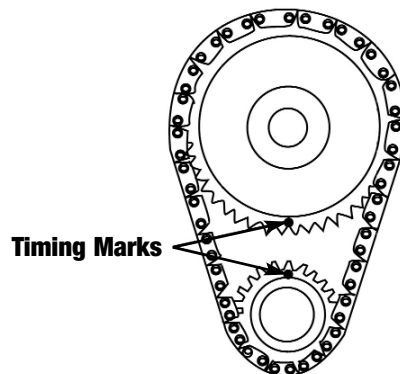

Figure 1 - Timing Mark Alignment
8. Rotate the crankshaft two full revolutions (*use flywheel holding tool J-42386, if necessary*). This will raise the lifters up into the lifter guides. The lifter guides will hold the lifters away from the camshaft so that it may be removed without the need to remove the lifters. Continue rotating the engine until the timing marks on the timing chain are in line (**See Fig. 1**). Remove the three bolts holding the camshaft sprocket and carefully remove the cam sprocket. You can allow the timing chain to rest on the crankshaft sprocket. (**NOTE:** Now is a good time to inspect the timing set. Replace, if necessary, following the service manual procedure.)
3. Replace the timing chain and camshaft sprocket. Make sure to align the timing marks on the cam and crankshaft sprockets (**See Fig. 1**). Using new bolts, tighten bolts to factory specifications (*See service manual*).
6. Make sure the timing sprockets are still aligned as shown in **Fig. 1**. If they are not, rotate the engine in the direction of operation until the timing marks are aligned. Tighten the rocker arm bolts in the sequence described below:
- A. With the timing marks aligned (**Fig. 1**), tighten exhaust valve rocker arm bolts 1, 2, 7, & 8 to 22 ft./lbs. Tighten intake valve rocker arm bolts 1, 3, 4, & 5 to 22 ft./lbs.